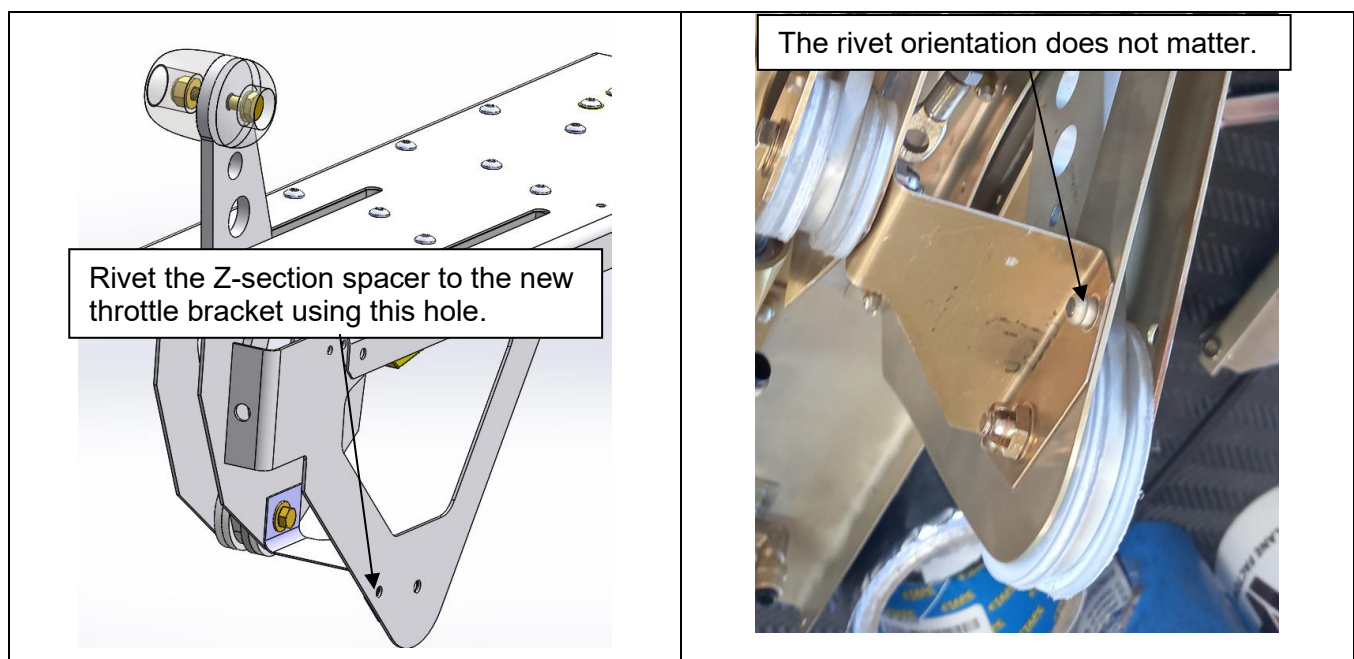

Figure 22
Step 3: Rivet the new bracket to the throttle quadrant Z-Section Spacer as seen in Figure 22, using the M4x10 rivet.